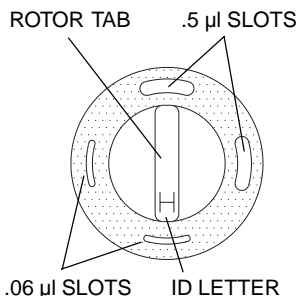
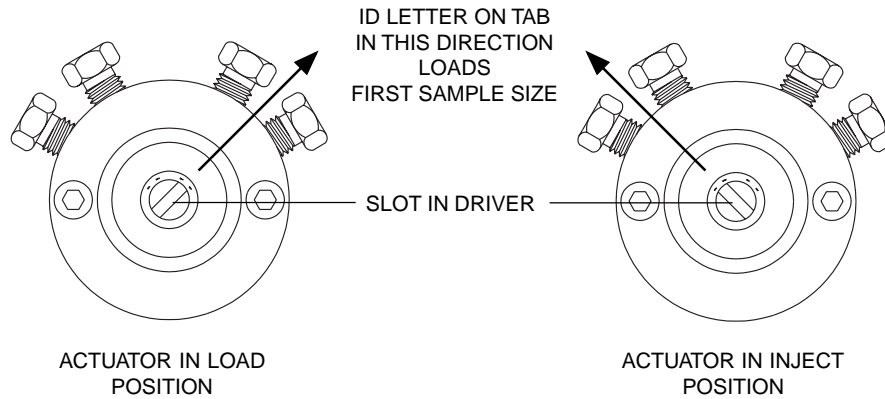

Figure 2: Rotor ID letter and slot arrangement
Figure 3: Valve with preload and rotor removed
4. Rotate the magnet with attached rotor 1/2 turn (180°). Carefully reinstall the rotor in the valve body, making sure that the rotor tab is fully inserted into the slot in the driver. (**Figure 2**) Once again, avoid touching the interior of the valve body with any of the metal parts of the rotor.
One end of the rotor tab has a small ID letter (typically H, P, E, or T). The slot on the polymer near this end of the tab (as well as one of the slots adjacent to it) carries the volume of the first sample size in the product number: the opposite slots correspond to the volume after the “slash” (/) in the product number. **(Figure 2)** In the example of the CI4W.06/.5, the letter on the tab indicates the .06µl sample slots. If the rotor is inserted with the ID letter toward the ports of the valve body, then a .06µl sample will be injected. **(Figure 3)** If the rotor is inserted with the ID letter away from the ports, a .5µl sample will be injected.